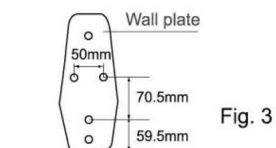

Fig. 3
- 2-2 With the supplied wrench, loosen the bolts and remove the wall plate.(Fig.3)
- 2-3 Use the wall plate as a template and drill three holes on the wall. Please refer to Fig.3 for the correct position of the three holes.The size and depth of the holes shall be in accordance with the bolts supplied.